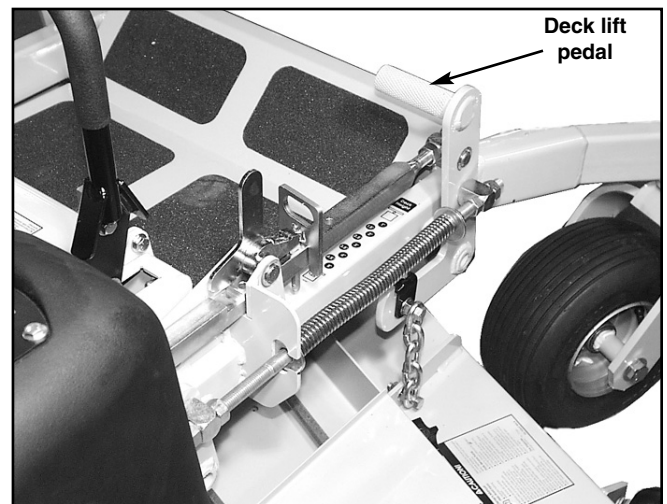

Figure 3-5
- B. **Deck lift pedal (Fig. 3-5)** — the deck lift pedal is used to raise or lower the deck. Push on the pedal to raise the deck and then place the deck height locking pin into the desired cutting height hole. Push the deck lift pedal to raise the deck when going over obstructions.